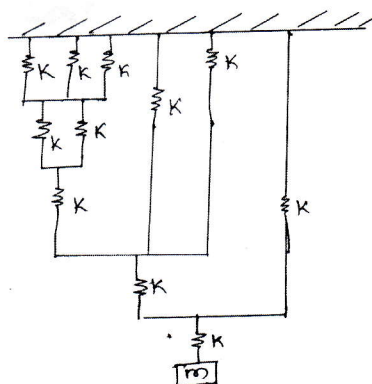

Fig.Q3(b)
- b. Fig.Q3(b) shows a spring mass system. Determine :